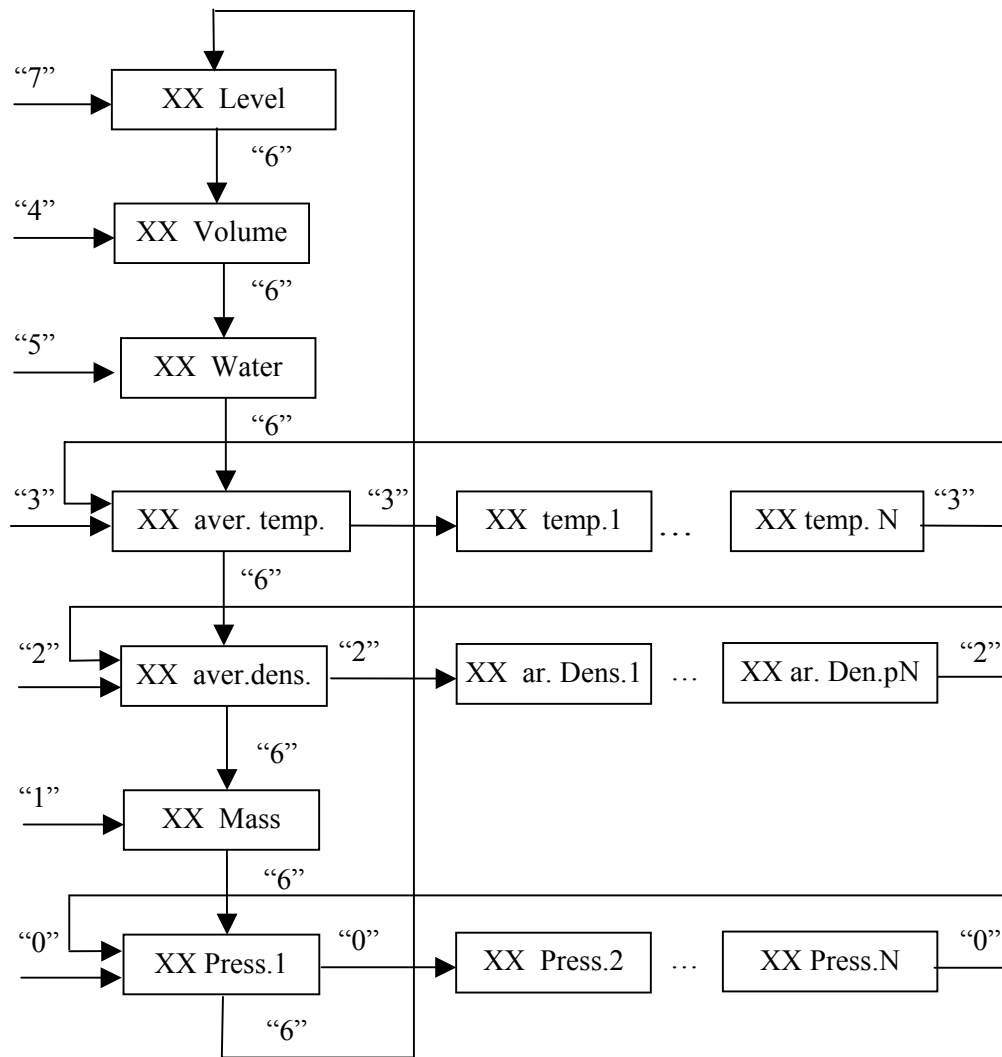

Figure 4.1a – Basic parameters review
By further pushing button “3” the depictions of temperature values “temperature 1”...“temperature N” are shown (please see figure 4.1a), corresponding to the temperature sensors (TS) 1 ... N. Number (N) TS and settings coordinates on the tank height are given in the system passport KИИЮЕ.421451.001ПС.
Further pushing of button “2” start depictions of the density values “ar. Density 1” ...“ ar. Density N” (see figure 4.1a), corresponding to density meters 1...N. The number (N) of density meters and settings coordinates for the tank height are given in the system passport KИИЮЕ.421451.001ПС.